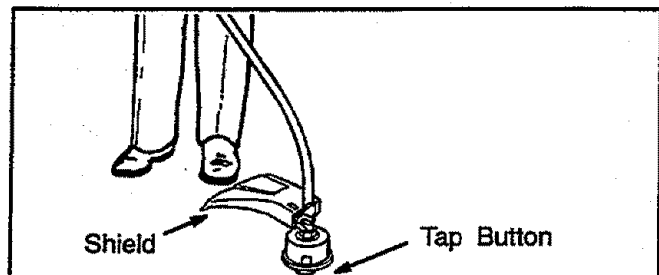

Figure 7.
## TRIMMER LINE ADVANCE (Fig. 7)
- Tap semi-automatic head lightly on the ground one time. Approximately 1-1/2 to 3 inches of line will be advanced after each tap. Figure 7.